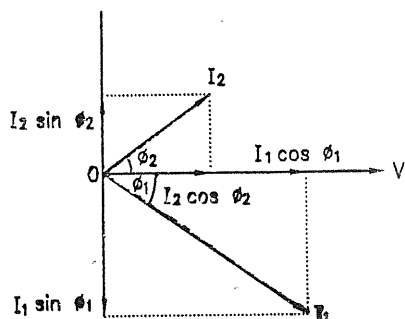
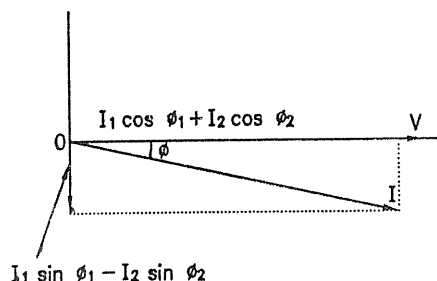

FIG. 2.64 : COMPONENTS OF BRANCH CURRENTS
FIG. 2.65 : RESULTANT OF BRANCH CURRENTS
- (ii) Alternatively by resolving the branch currents I_1 and I_2 into their x -components and y -components as shown in Fig. 2.64 and then obtaining the resultant current by combining these components as shown in Fig. 2.65.
- From Fig. 2.64, we have